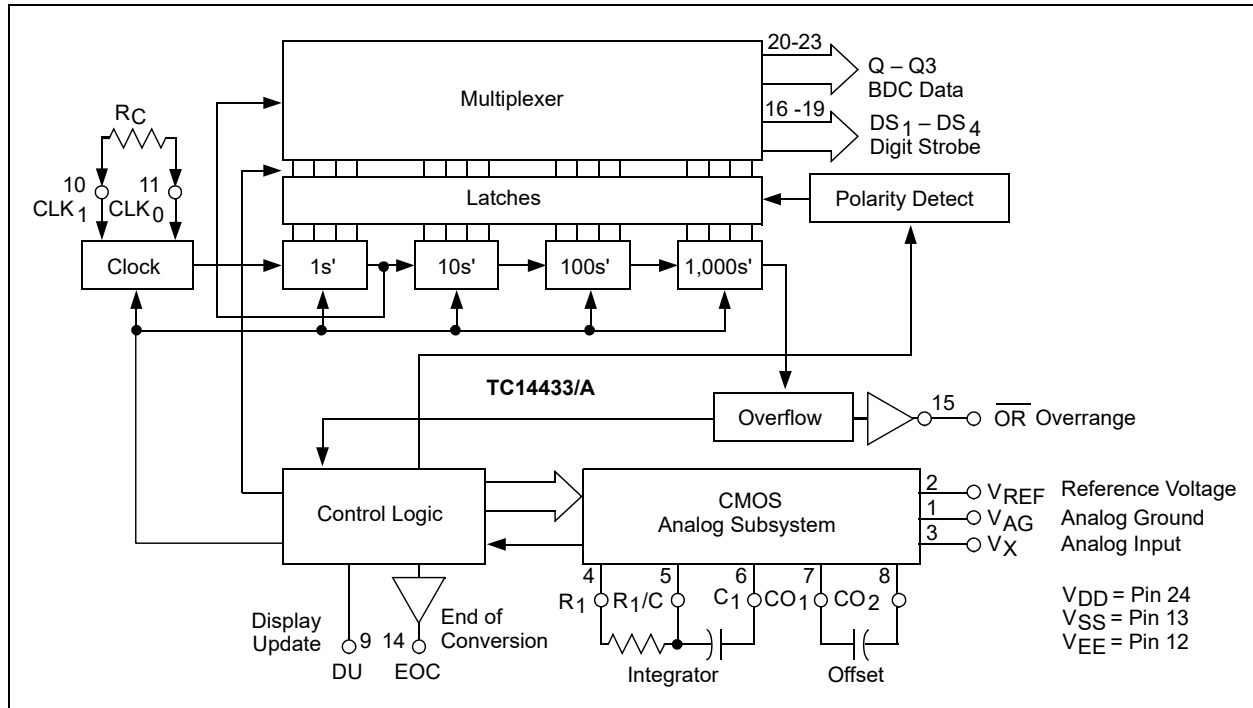

**FIGURE 4-2:** Equivalent Circuit Diagrams of the Analog Section During Segment 4 of the Timing Cycle.
**Segment 4** – Segment 4 is an up-going ramp cycle with unknown input voltage ( $V_X$  as the input to the integrator). Figure 4-2 shows the equivalent configuration of the analog section of the TC14433. The actual configuration of the analog section is dependent upon the polarity of the input voltage during the previous conversion cycle.